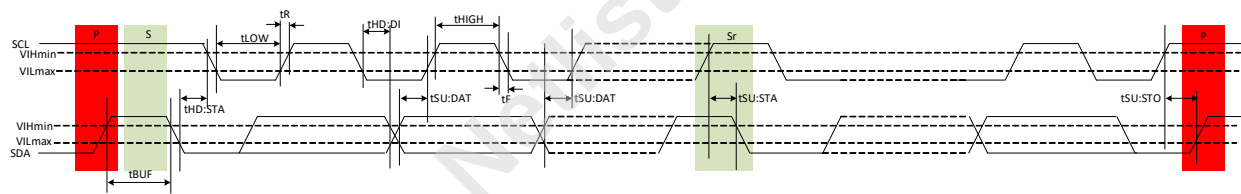
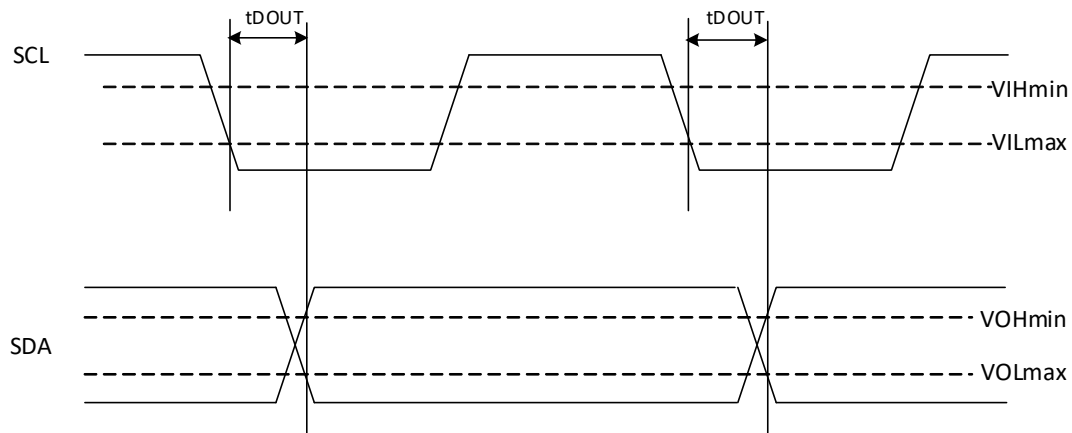
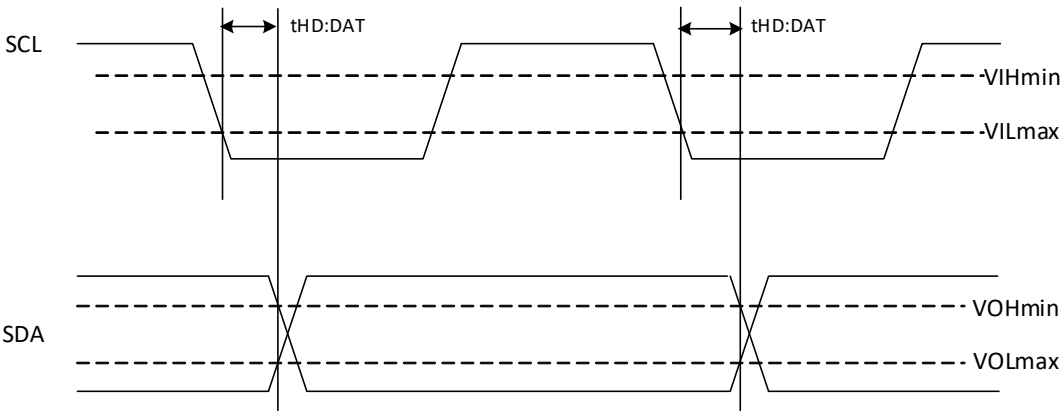

Figure 1 — I²C or I3C Basic Bus AC Input Timing Parameter Definition
Figure 2 — I3C Basic Bus AC Data Output Timing Parameter Definition
Figure 3 — I²C Bus AC Data Output Timing Parameter Definition
2. See Figure 1 for PMIC's input timing definition.
4. The input setup time is referenced from SDA VIL or VIH threshold as shown in Figure 1 to SCL VIH threshold as shown in Figure 1. The input hold time is referenced from SCL VIL threshold as shown in Figure 1 to SDA VIL or VIH threshold as shown in Figure 1.
6. The PMIC device guarantees $t_{HD:DAT}$ value in I²C mode of operation. See Figure 3 for PMIC's output timing definitions as well as SCL clock input threshold level and SDA data output threshold levels.
7. The PMIC device must be configured in I3C Basic mode to guarantee t_{DOUT} or t_{DOFFS} or t_{DOFFM} value. See Figure 2 for PMIC's output timing definition as well as SCL clock input threshold level and SDA data output threshold levels.
The PMIC device follow the I²C or I3C Basic bus timing requirements. Figure 1, Figure 2 and Figure 3 show the timing diagram for Data bus Input and Data Output parameters.